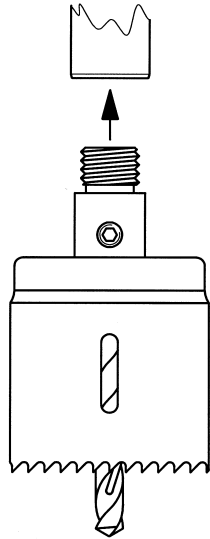

Figure 30
- Set up the arbor hole saws with the pilot drill in the chuckshaft. Screw the hole saw matching the threaded outlet of the branch connection into the arbor hole saw. See *Figure 30*.